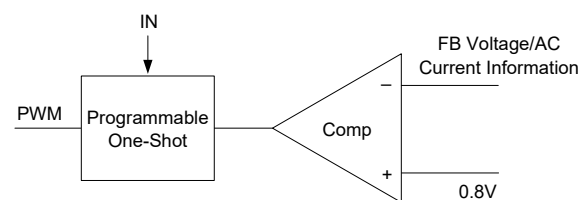

Figure 2. Simplified Control Schematic of AOZ2152EQI-29
The control algorithm of AOZ2152EQI-29 is constant-on-time PWM control with input feed-forward. The simplified control schematic is shown in Figure 2. The high-side switch on-time is determined solely by a one-shot whose pulse width is inversely proportional to input voltage (IN). The one-shot is triggered when the internal 0.8V is higher than the combined information of FB voltage and the AC current information of inductor, which is processed and obtained through the sensed low-side MOSFET current once it turns-on. The added AC current information can help the stability of constant-on time control even with pure ceramic output capacitors, which have very low ESR. The AC current information has no DC offset, which is fundamentally different from other V^2 constant-on time control schemes.